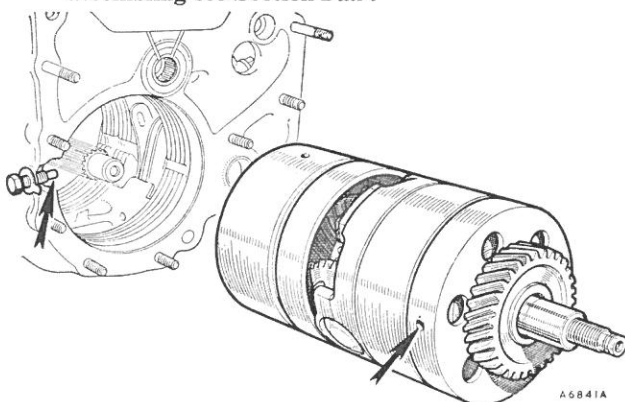

Fig. Fa.11
- (8) Remove the set screw and lift out the auxiliary pump filter.
- (9) Remove Service tool 18G 1097 and withdraw the forward clutch from the casing.
- (10) Withdraw the forward output shaft and tap out the reverse shut-off valve. Insert the dummy output shaft Service tool 18G 1093 A.
- (11) Slacken off the servo band adjusters.
- (12) Remove the dowel bolt (Fig. Fa.11) and remove the gear train which includes the top and reverse clutch with its Torrington needle thrust bearing and steel washer, and the first gear free-wheel assembly.
- (38) Remove the forward clutch retainer—Service tool 18G 1097.
- (39) Refit the top and reverse clutch hub washer and the Torrington needle thrust bearing into position with grease.
- (40) Ensure that the top and reverse clutch friction plates are free to drop before refitting the gear train assembly into the transmission. Correctly position the second, third, and reverse gear bands in the case and refit the gear train, using hand pressure only to push it into position. Quick rotation of the input gear will assist in engaging the top and reverse clutch friction plates. When correctly re-assembled the dowel bolt will engage easily in the freewheel support (Fig. Fa.11).
- (41) Refit the dowel bolt with a new lock washer.